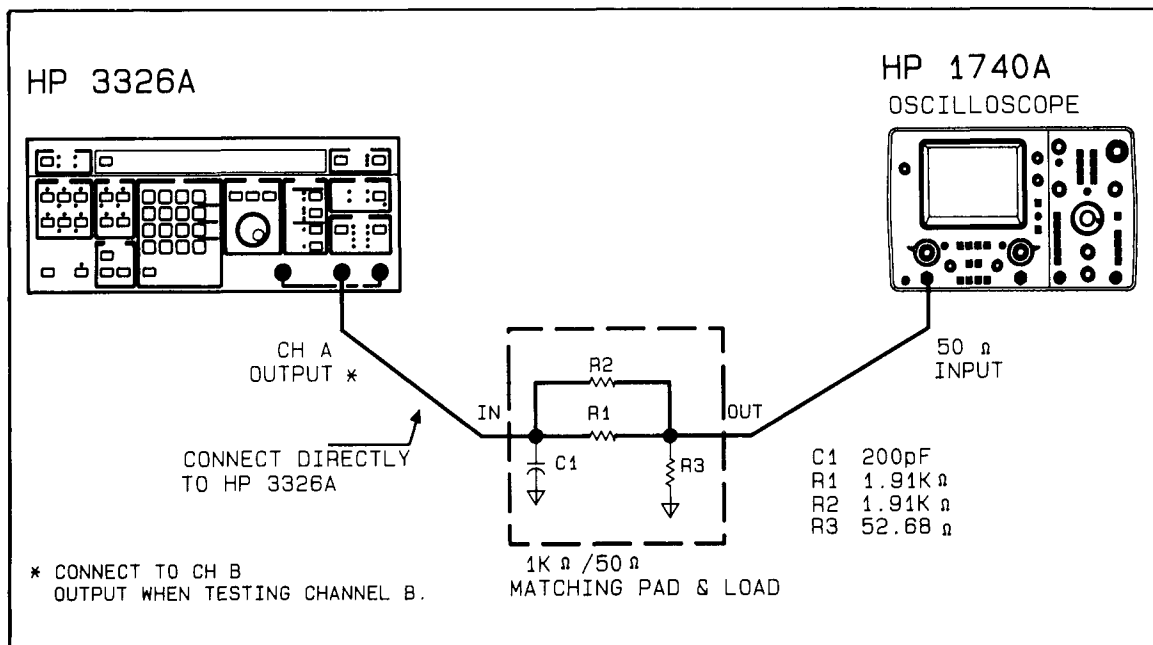

Figure 3-18. Adjustment #15 Setup
4. Connect the test equipment as follows (illustrated in Figure 3-18):